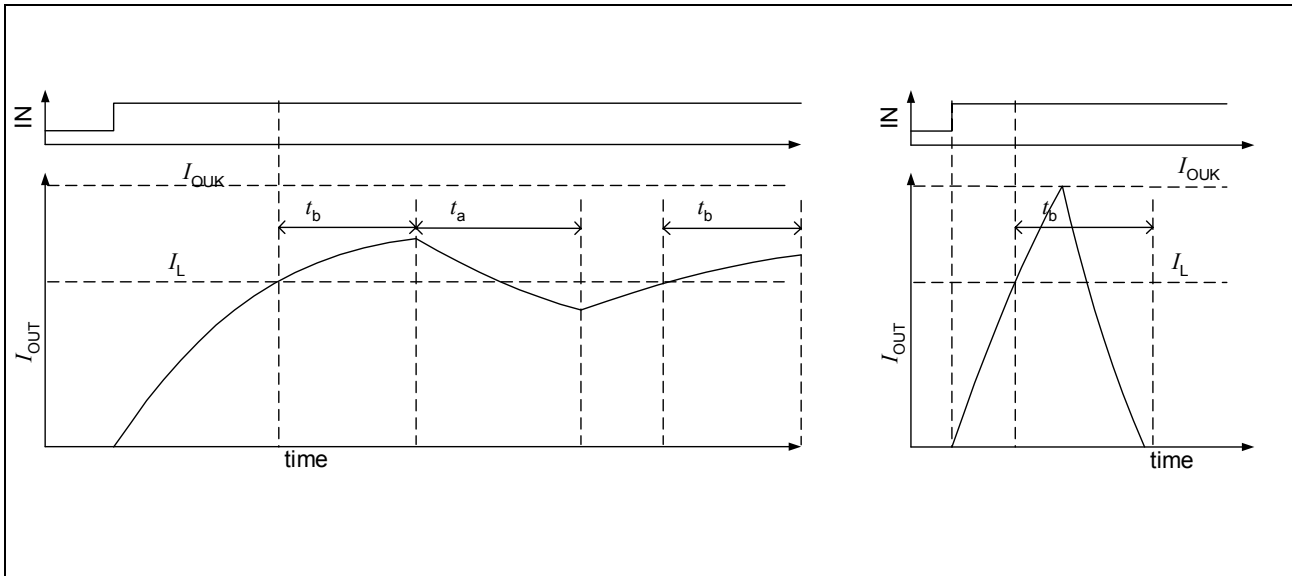

Figure 5 Short to Vs detection. Left: normal operation. Right: short circuit is detected
Due to the chopper current regulation, the low-side switches are already protected against a short to the supply voltage. To be able to distinguish a short circuit from normal current limit operation, the current limitation is deactivated for the blanking time t_b after the current has exceeded the current limit threshold I_L . If the short circuit detection current I_{OUK} is reached within this blanking time, a short circuit is detected (see **Figure 5**). All output transistors are turned OFF and the according error bit “Short Circuit to Battery on output 1 (2)”, SCB1 (SCB2) is set.